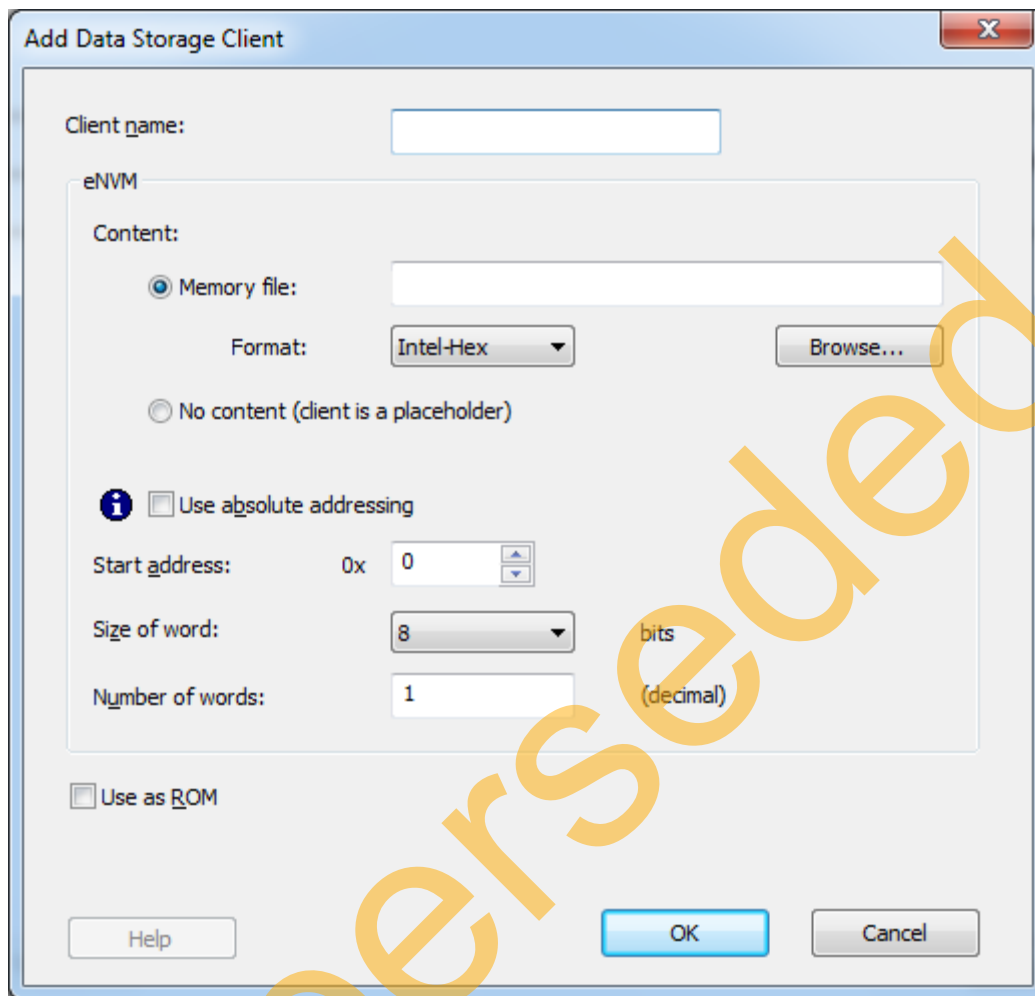

Figure 2 • Add Data Storage Client
4. The **Add Data Storage Client** window is displayed, as shown in Figure 2 on page 4. It supports four types of memory file formats: